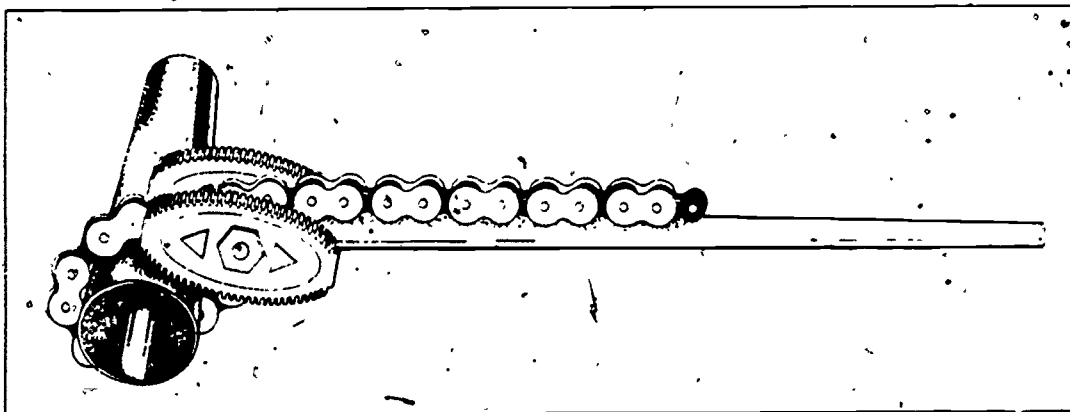

Figure 3-45. Chain tongs.
**Chain tongs.** The chain tongs, shown in figure 3-45, are generally used on pipes and fittings that have a diameter of 2 inches or more. They are placed on the pipe by wrapping the chain around the pipe and attaching it to the wrench by a slot arrangement. One advantage of a chain tong is that it will grip and apply